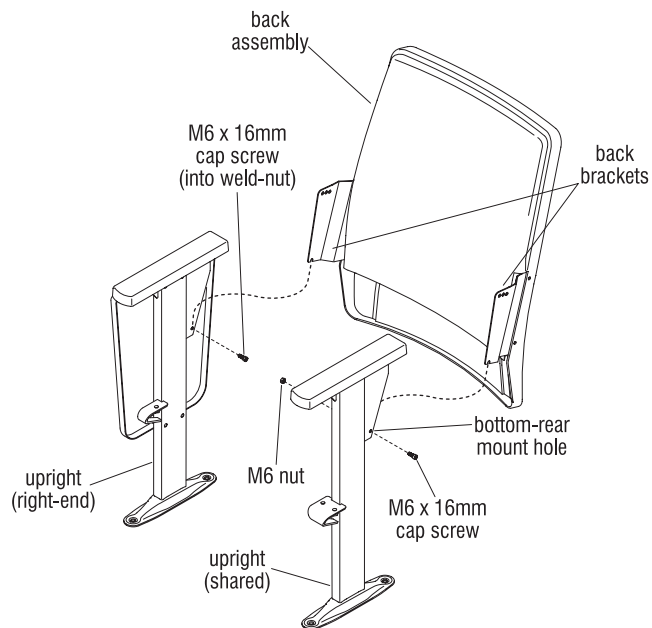

Figure 2
2. Starting at either end of the row, loosely twist in a M6 x 16mm cap screw into the bottom rear hole in the end-upright back bracket. Then insert a M6 x 16mm cap screw through the bottom rear hole in the shared upright and loosely twist on a M6 nut (Figure 2).
3. Lift up and position the back assembly in between the two uprights until the appropriate two slots in the lower part of the back brackets nest onto the two loosely attached M6 x 16mm cap screws in the upright's back bracket (Figure 2).
3. Follow instructions on pages 1, 2 & 4 (Figures 2, 3, 4 & 6) for proper back and seat attachment. If equipped with accessories such as tablet arms, refer to those instructions too.